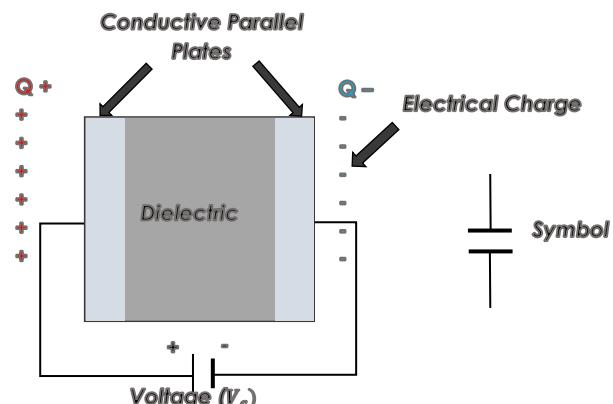

Figure 4. Basic parts of a capacitor
The amount of charge (Q) a capacitor can store depends on two major factors- the voltage applied and the capacitor's physical characteristics, such as its size. It is easy to see the relationship between the voltage and the stored charge for a parallel plate capacitor, as shown in Figure 4. Each electric field line starts on an individual positive charge and ends on negative one, so that there will be more field lines if there is more charge.